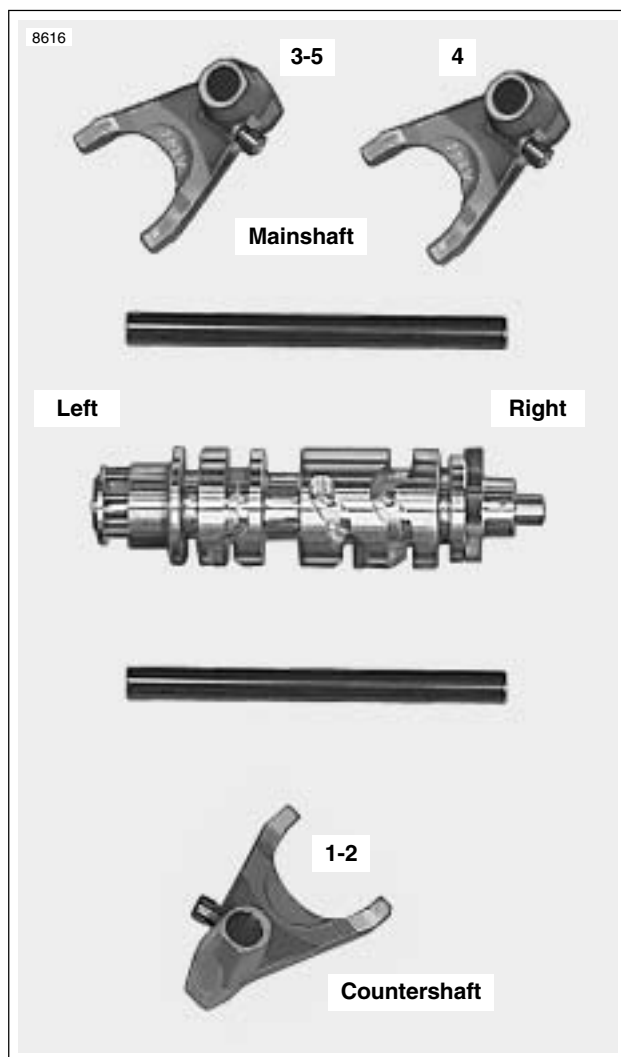

Figure 6-82. Shifter Forks, Drum and Shafts
- See Figure 6-82. Shifter fork design allows for one common part number for all three shifter forks. As the transmission runs, each shifter fork develops a certain wear pattern with its mating parts. For this reason, it is important that each shifter fork be reinstalled in its original location.